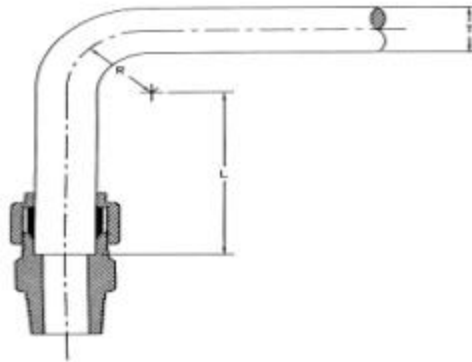

Figure 4.2-1 Guidance for Determining Length Between Tube Bend and Fitting
- B. Bend tubing so that deformed section at bend does not enter fitting. See dimension L on Figure 4.2-1 and Table 4.2-2.